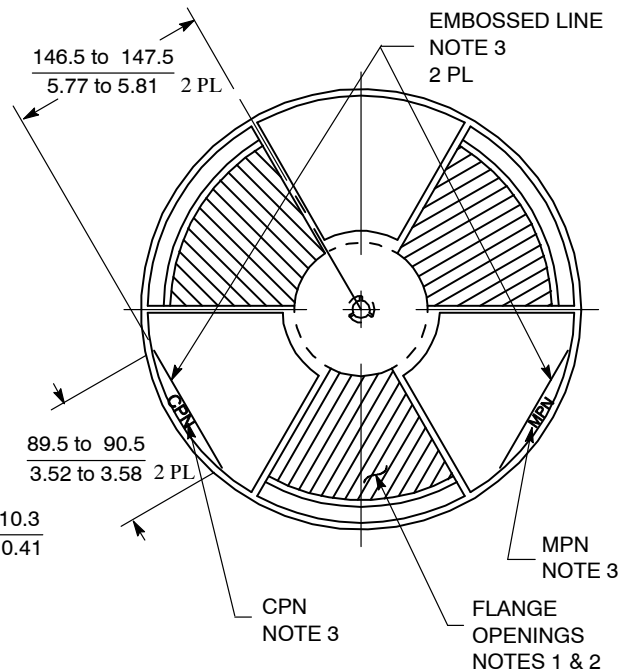

Figure 40. Front View of 330 mm (12.99 in) Reel
- If there are any flange opening on the front flange of the 330 mm (13.0 in) reel they must be designed in locations so that two of the 41.3 mm (1.65 in) by 125 mm (4.90 in) ON Semiconductor barcode labels can be applied parallel to each other as in Figure 40.